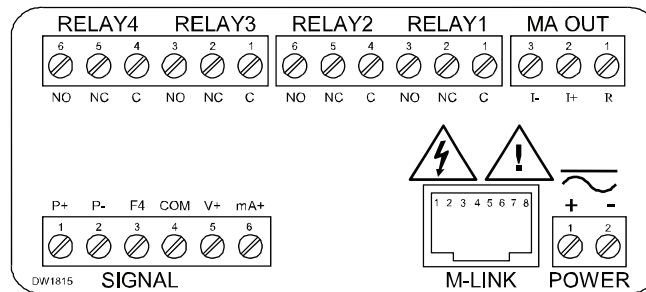

Figure 6. Connector Labeling for Fully Loaded PD6000
Power connections are made to a two-terminal connector labeled POWER on Figure 6 on page 11. The meter will operate regardless of DC polarity connection. The + and - symbols are only a suggested wiring convention.
Signal connections are made to a six-terminal connector labeled SIGNAL on Figure 6. The COM (common) terminal is the return for the 4-20 mA and the ± 10 V input signals.
Serial communications connection is made to an RJ45 connector labeled M-LINK on Figure 6. For interfacing to the PROVu®, use the PDA1232 for RS-232 or the PDA1485 for RS-485. The same port is used for interfacing with all expansion modules (e.g. external relays, digital I/O).
Relay connections are made to two six-terminal connectors labeled RELAY1 – RELAY4 on Figure 6. Each relay’s C terminal is common only to the normally open (NO) and normally closed (NC) contacts of the corresponding relay. The relays’ C terminals should not be confused with the COM (common) terminal of the INPUT SIGNAL connector.